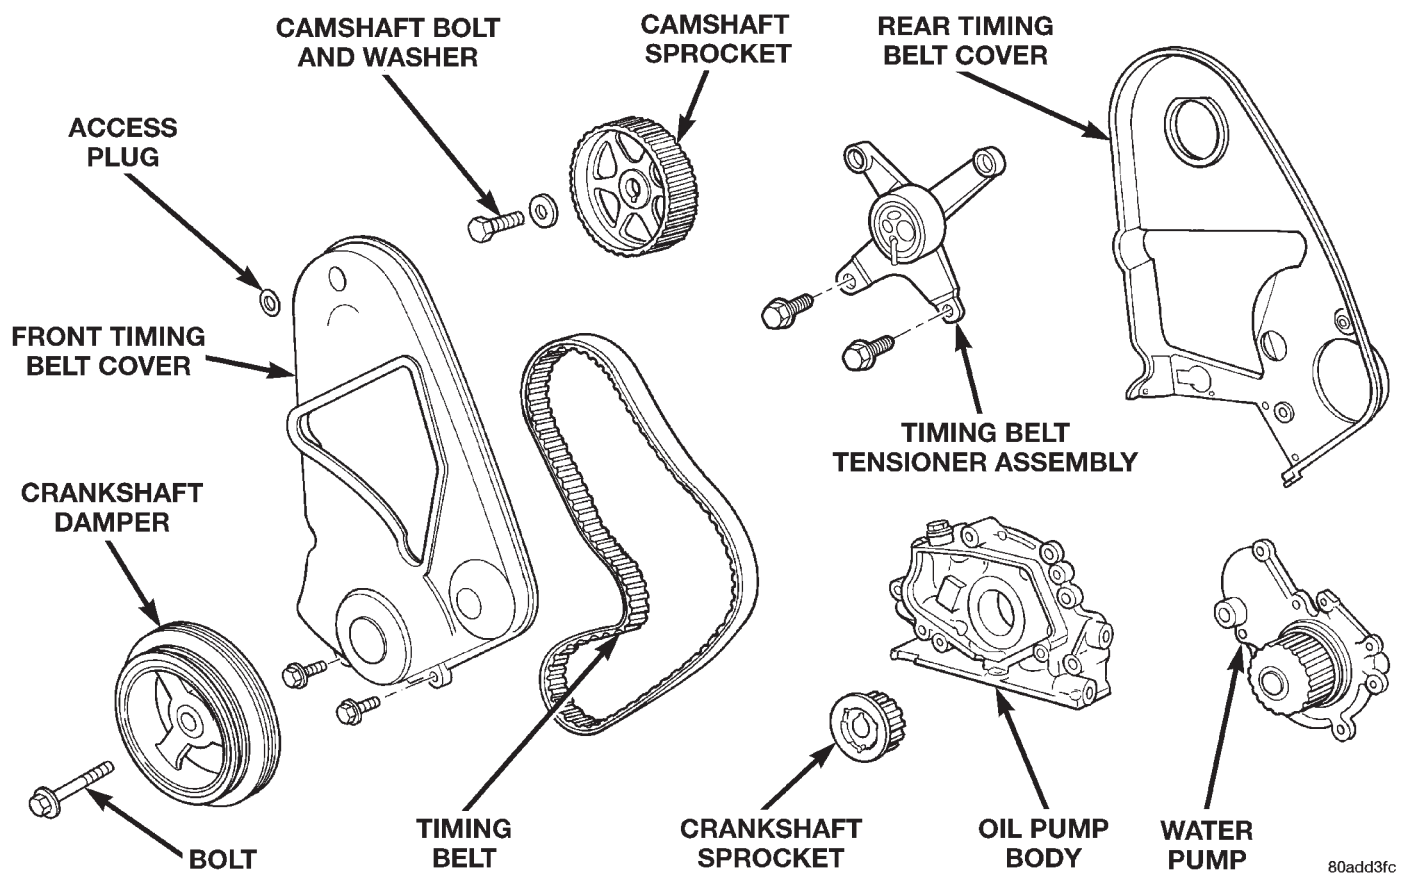

Fig. 53 Timing Belt System—With Mechanical Tensioner
- Remove the access plug from the outer timing belt cover (Fig. 53).